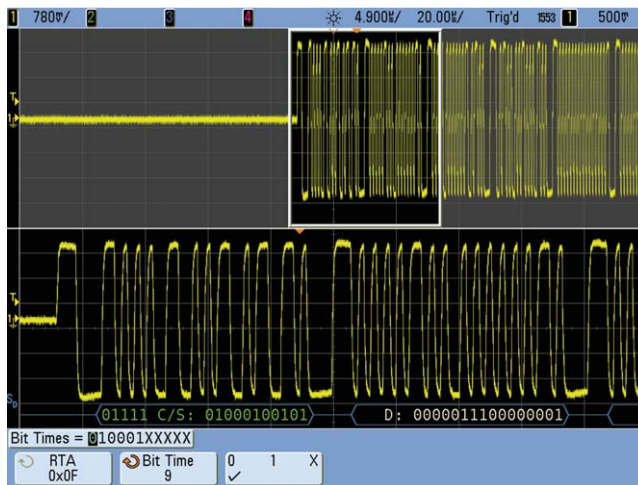

Figure 4. Triggering on a Command Word with a receive data instruction.
Figure 4 shows a similar triggering example. But this time the transmit/receive bit (bit time 9) has been set to “0” (0 10001 XXXXX). Now we can see that after a “receive” instruction is sent, a Data Word sent by the Bus Controller (BC) follows the Command Word as expected.